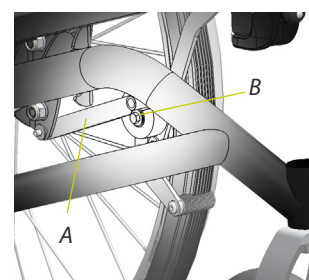

Fig 18
1. Attach the brake unit to the brake bar (A, fig 18) by tightening the nut (B).
Adjust the braking force by loosening the nut (B, fig 18) and moving the braking unit along the beam (A) until the desired braking force is reached.